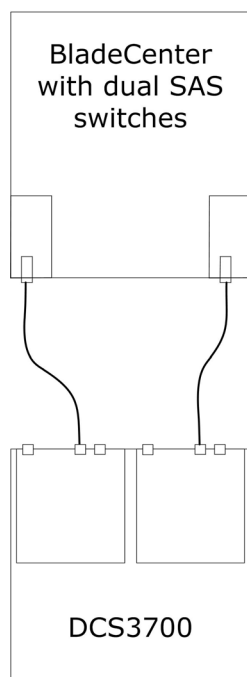

Figure 40. Example of DCS3700 connected to a single BladeCenter unit
2. To create a redundant host connection, connect a SAS cable from a second SAS connectivity module to a host connector on the other controller in the DCS3700. You can only create a maximum of two redundant host connections in a dual-controller DCS3700, one connection each from the blade center to the DCS3700 controller host port as shown in Figure 40.